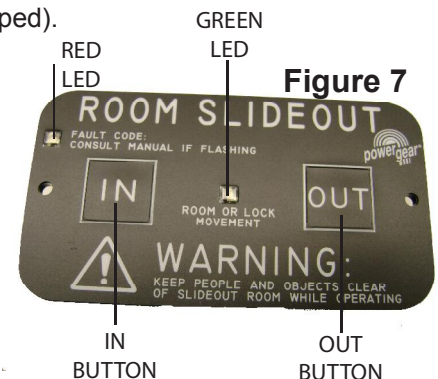

Figure 7
2. Determine location to mount touchpad (Figure 7). Location needs to be in view of slideout room and have a minimum depth of 1" inside the wall. Cut 2 7/8" wide x 1 3/4" high rectangular opening in wall to mount the touchpad.
3. Route and attach touchpad harness to where touchpad will be mounted. Mount touchpad with (2) screws after system has been programmed.
3. Remove the touchpad (Fig 7) from the wall.
4. Press and hold the "Set Stops/Clear Fault" button on the back of the wall touchpad for 5 seconds. (Figure 4). Both LED's will light while the button is held down. (Figure 7)
- The GREEN LED indicates system operation. (Figure 7)
- The RED LED indicates a fault or problem with the system. (Figure 7) and refer to Fault Diagnostics Mode in this manual for additional information.
4. Press and hold the OUT button (Figure 7). If equipped with room locks, the room locks will first retract prior to room movement. Reference the GREEN LED indications above to determine component movement.
2. Press and hold the IN button (Figure 7) If equipped with room locks, the room locks will automatically extend when the room is fully retracted. Reference the GREEN LED indications above to determine component movement.
The control has the ability to detect several faults. When a fault is detected, the room movement will stop and the RED LED (Figure 7) will flash a number of times corresponding to a specific fault code listed below.
- To determine the fault, count the number of GREEN and RED LED flashes on the wall touchpad (Fig 7) The number of flashes corresponds to a fault code number.
1. Remove the touchpad (Fig 7) from the wall
2. Press and hold the "Set Stops/Clear Fault" button on the back of the wall touchpad for 5 seconds (Figure 4). Both LED's will light while the button is held down. (Figure 7)
- b. Press the IN button on the front of the wall touchpad (Figure 7) until the room is fully retracted